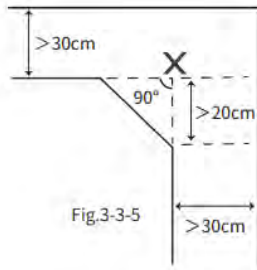

Fig.3-3-5
- Make sure the angle of the boundary wire is more than 90°.(Fig.3-3-5).